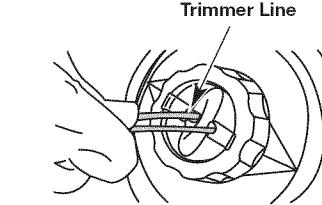

Fig. 20
- Push both ends of the line through the holes in the bump knob until they protrude through both eyelets. Pull the line until approximately 5 ft. (1.5 m) of line extends from each side (Fig. 20).